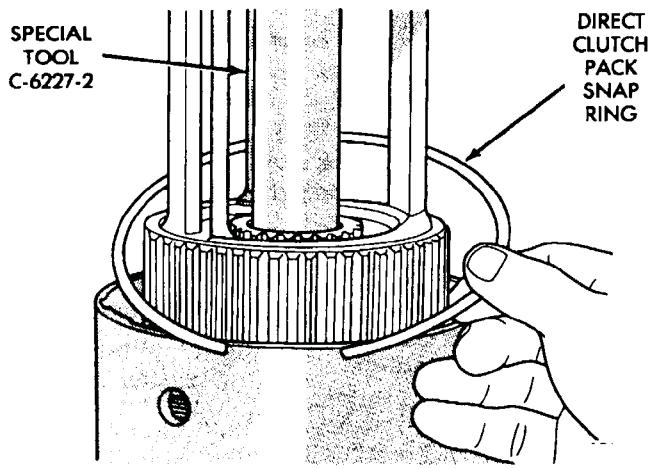

Fig. 62 Direct Clutch Pack Snap Ring Installation
(28) Install direct clutch pack snap ring (Fig. 62). Be very sure snap ring is fully seated in clutch drum ring groove.